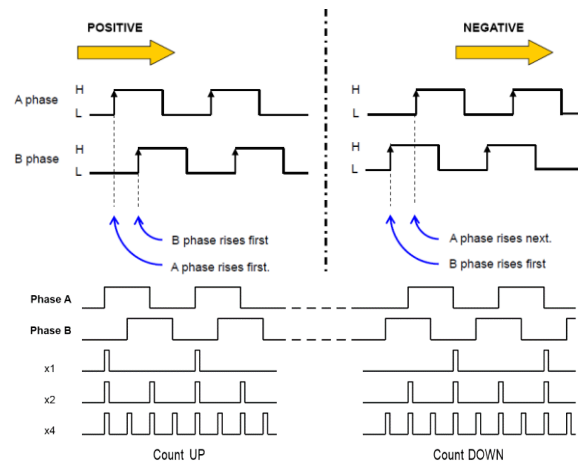

Figure 2-12
- c. For an A/B phase type you can select x1, x2 or x4 multiplication rate. Figure 2-12 shows how the A/B phase counts would be interpolated for a x1, x2, and x4 multiplication rate.